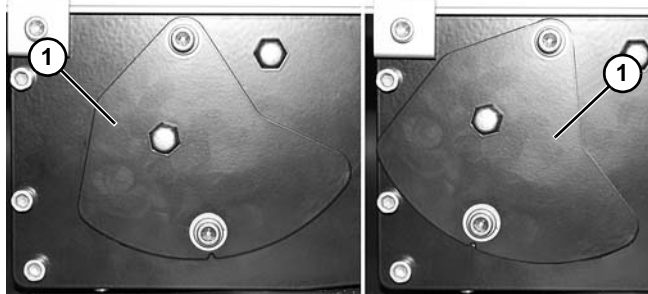

Figure 88
For a new belt, the tension plate (**Figure 88, item 1**) will be in position indicated below left. When the tension plate extends to position indicated below right, the conveyor belt must be replaced.